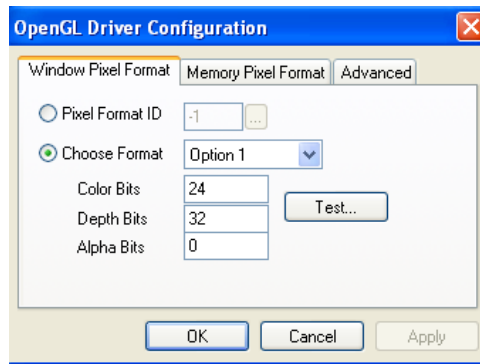

Figure 5-94 OpenGL Driver Configuration dialog box
4. In the OpenGL Driver Configuration dialog box (Figure 5-94), select Pixel Format ID and enter this number.